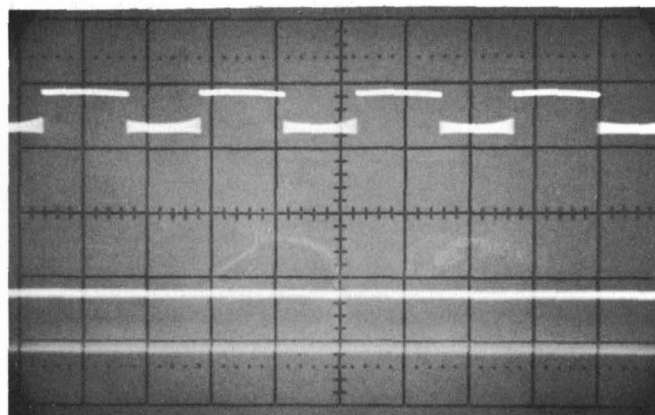

Figure 5-7. Trigger Sensitivity
e. Rotate TRIGGER LEVEL to obtain a free running display approximately 0.5 volt in amplitude (see figure 5-7).
f. Using TRIGGER LEVEL to maintain a presentation adjust Trigger Sensitivity R120 counterclockwise until a stable, synchronized, symmetrical square wave approximately 0.35 volt in amplitude is obtained (see figure 5-7).